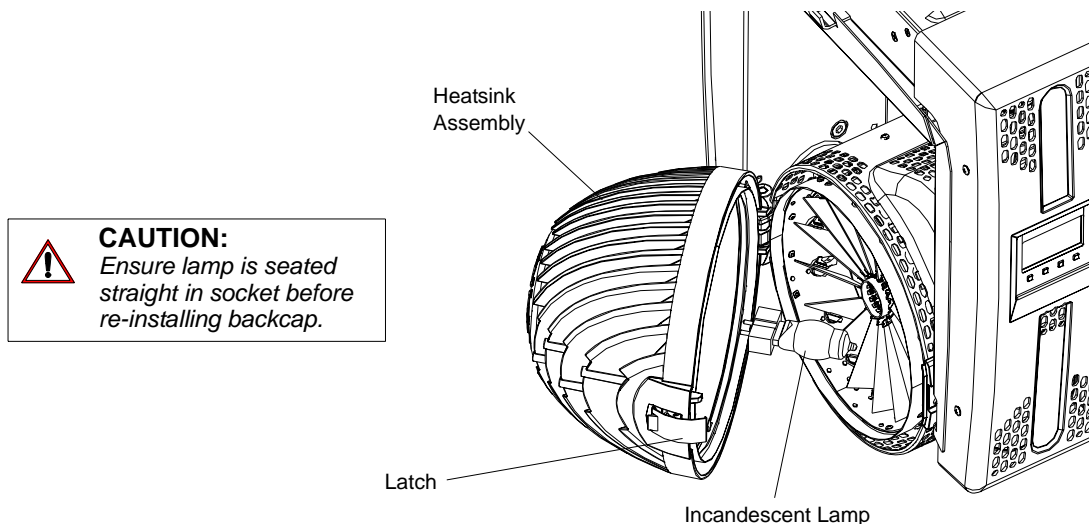

Figure 2: Lamp Replacement - Incandescent
Step 4. As shown in Figure 2, at heatsink assembly, open latch and swing open back of luminaire.